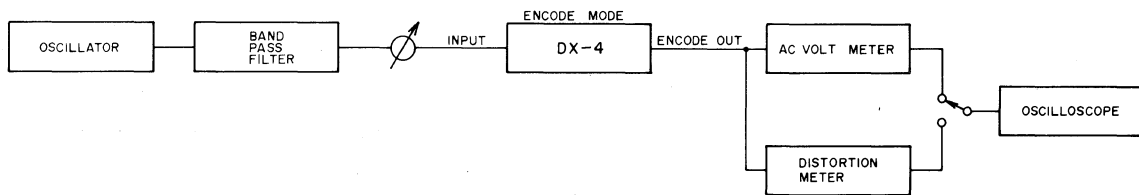

Fig. 5-2 Encode Test Connections
1. Hook-up the test equipment to the DX-4 as shown in the diagram. See Fig. 5-2.